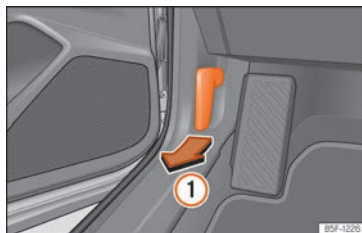

Fig. 203 Release lever in the driver's footwell area.
- Open the door and pull the lever that is underneath the instrument panel »»» Fig. 203 ①.